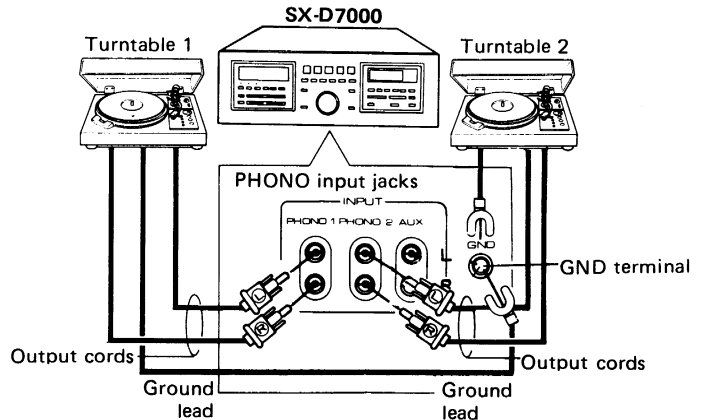

Fig. 2
**TURNTABLE CONNECTIONS (Fig. 2)**